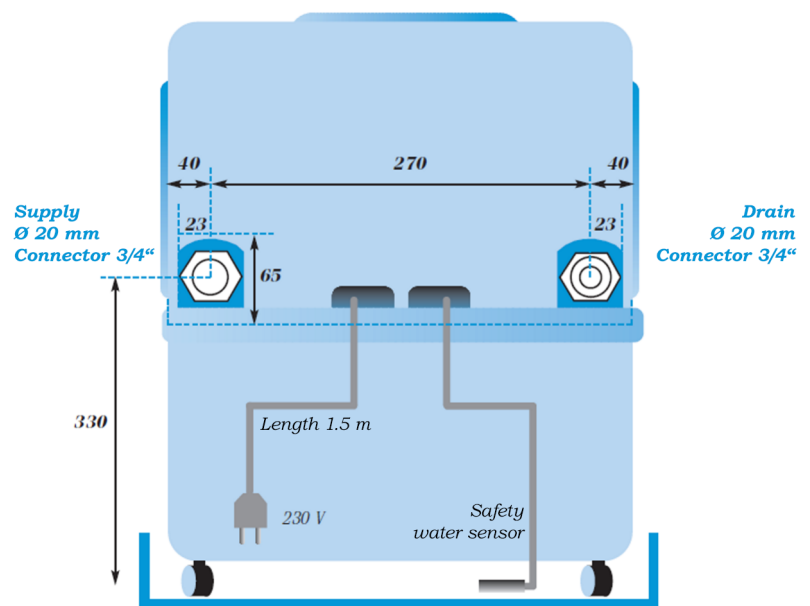

Fig. 58: Automatic flushing device
- For a diagram with the dimensions of the connection, see Fig. 58.
- For dimensions and connection sizes, see drawing Fig. 58.